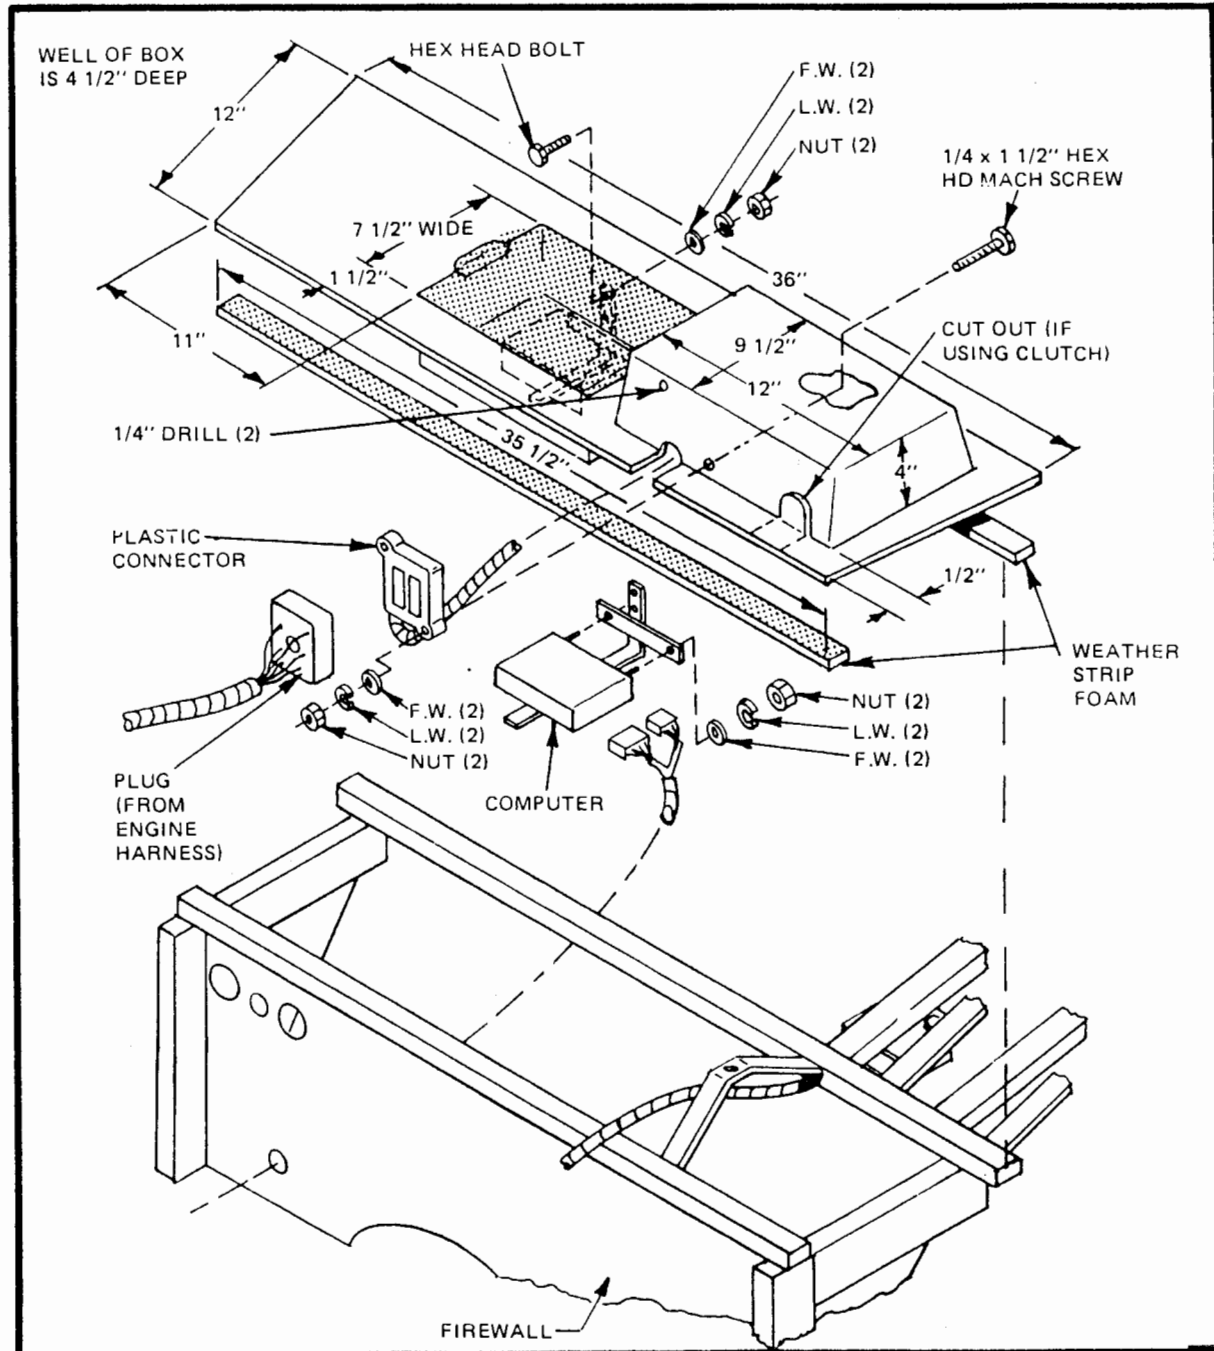

Figure 21
- The large plastic connector from underdash harness mounts on the front far right (passenger side) of the raised area of the battery box on the engine side. (Figure 21)
- Cut slot for wires in the lip of the battery box, as shown in figure 21. Mount plug to box with two $1/4 \times 1\ 1/2$ " hex head machine screws with flat washers, lock washers and nuts. Seal area around cut-out. Apply weather stripping foam $1/4 \times 3/4$ " to top of frame where it contacts the battery box. It will be permanently installed later when the body is mated to the chassis.